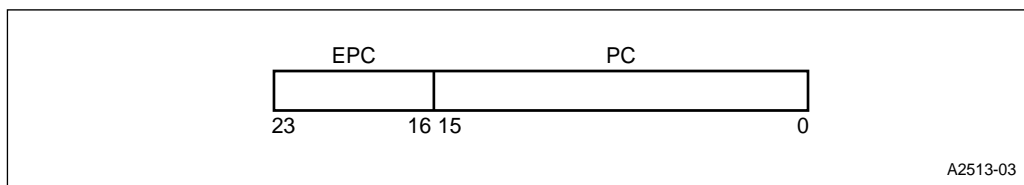

Figure 5-7. The 24-bit Program Counter
The 24-bit program counter (Figure 5-7) consists of the 8-bit extended program counter (EPC) concatenated with the 16-bit master program counter (PC). It holds the address of the next instruction to be fetched. The page number of the instruction is in the EPC. In 1-Mbyte mode, the EPC can have any 8-bit value. However, only the four LSBs of the EPC are implemented externally, as EPORT pins A19:16. This means that in the 1-Mbyte mode, the device can fetch code from any page in the 1-Mbyte address space: 00H–0FH and FFH (FFH overlays 0FH). In 64-Kbyte mode, the EPC is fixed at FFH, which limits program memory to page FFH (and 0FH).
CCR1.1 (the MODE64 bit) controls whether the device operates in 1-Mbyte or 64-Kbyte mode. CCR1 is loaded with the contents of CCB1 at reset. When MODE64 is set, the device operates in 64-Kbyte mode. In this mode, the EPC (Figure 5-7 on page 5-23) is fixed at FFH, which allows instructions to execute from page FFH only. Extended jump, branch, and call instructions do **not** function in the 64-Kbyte mode.